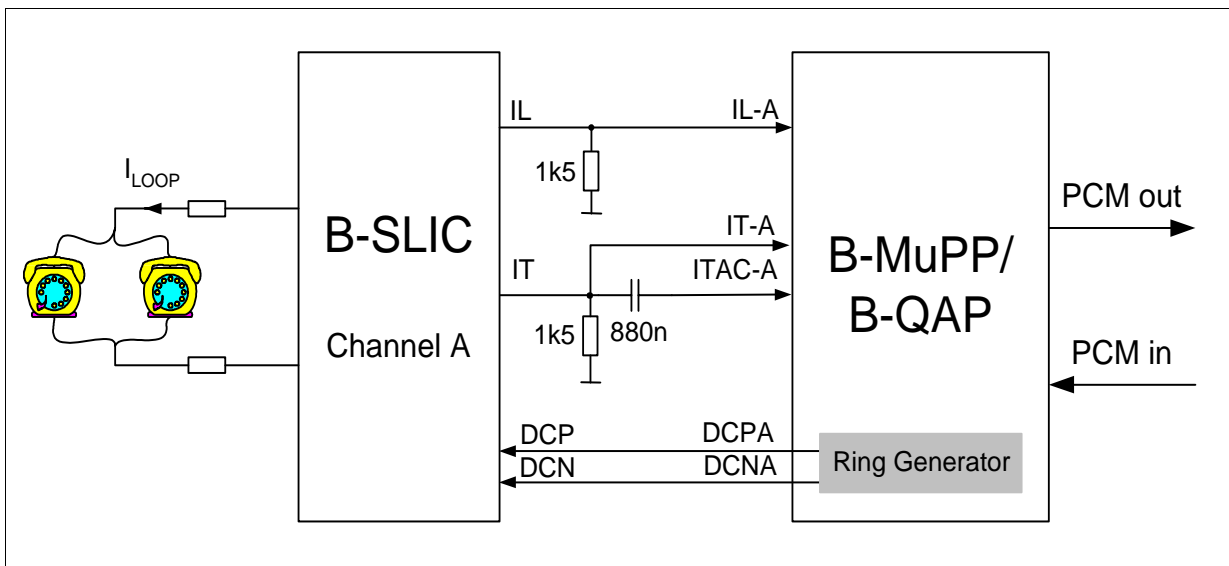

Figure 3-5 Capacitance Measurement
- Line capacitance (e.g., if the line breaks) (Figure 3-5)
The same principle is also used for capacitance measurements (Figure 3-5). The only difference is that for feeding the tip-and-ring line, no PCM-in-word is required, but the internal ramp generator can be used for producing a time-varying trapezoidal signal for capacitance measurements.